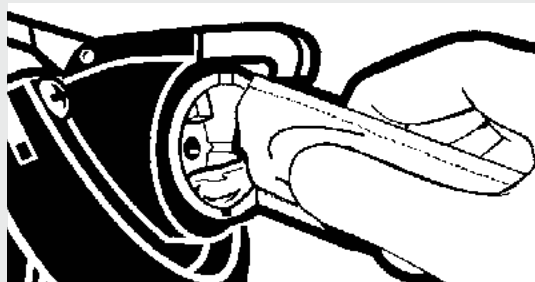

Figure 1.
- Apply a thin coating of petroleum jelly to the inside face of the Insta-Flo™ Dispenser. This makes cleaning of the dispenser face much easier and extends the effective life of the Insta-Flo™ Dispenser. (See figure 1)
- Using the wrench provided in the Gun / Hose Assembly Kit, tighten the hose assemblies for both "A" and "B" valves until both are tight. Apply a coating of petroleum jelly to the inside face of the Insta-Flo™ Dispenser. (See figure 1)